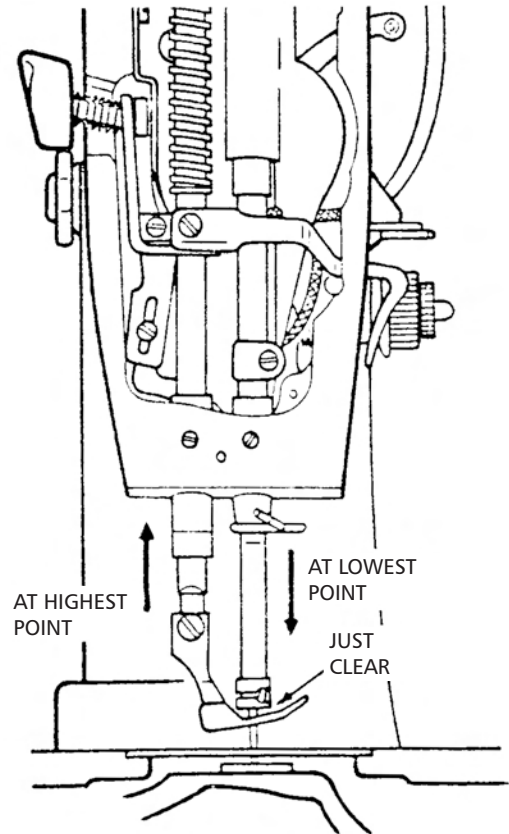

Fig. 6
2. When presser foot is at its highest point and needle bar is at its lowest, top of presser foot should clear lower end of needle bar, as shown in Fig. 6.